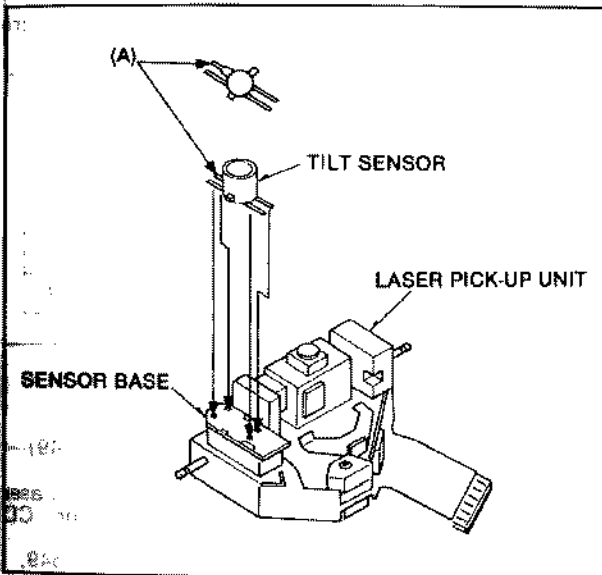

Fig. R22
2. Place the new Tilt sensor on the sensor Base so that position (A) of Tilt Sensor match the upper right corner of sensor Base as shown in Fig. R22.